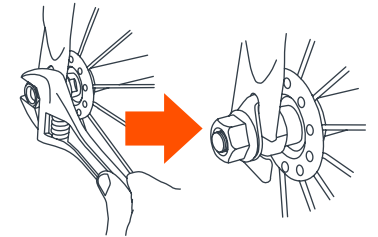

Fig. 4
- 4) • With the wheel in position, install the axle nuts and tighten with standard crescent, box, or open end wrench. You should feel significant resistance and the wheel should be held tightly in place (Fig. 4).